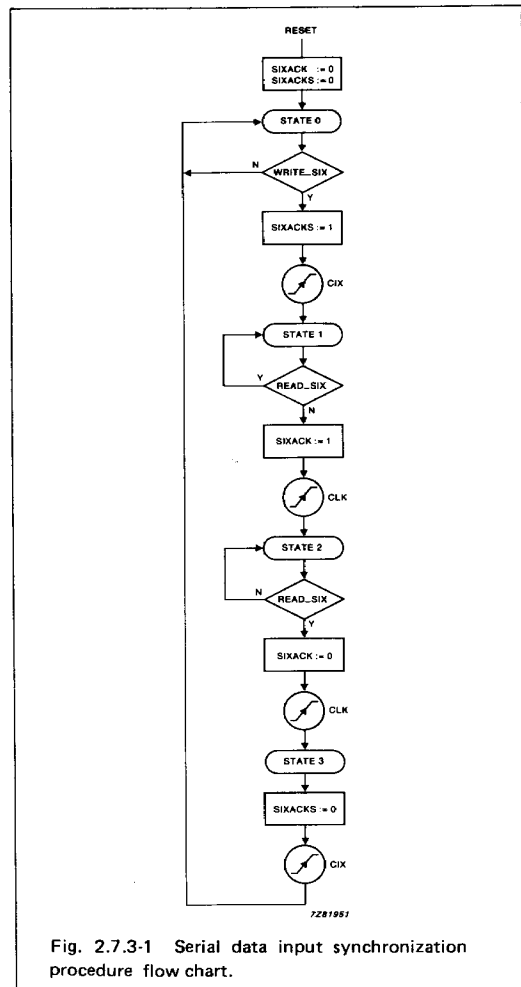

Fig. 2.7.3-1 Serial data input synchronization procedure flow chart.
- the serial data input synchronization procedure (Fig. 2.7.3-1).